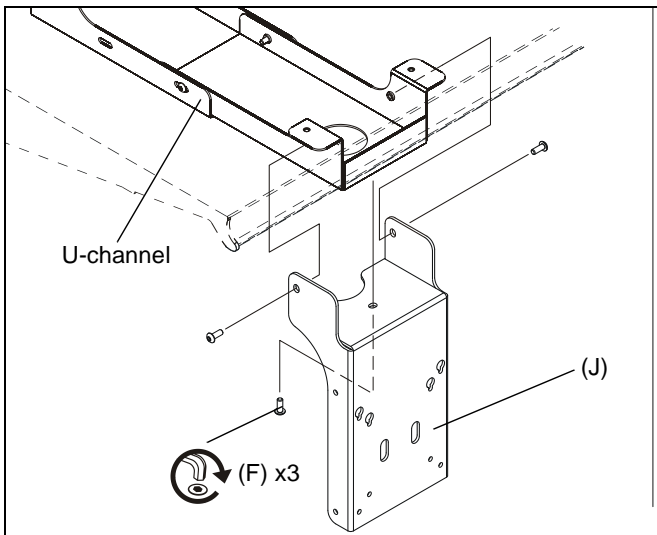

Figure 6
3. Install face plate (J) to U-channel using three 10-24 button head cap screws (F). (See Figure 6)